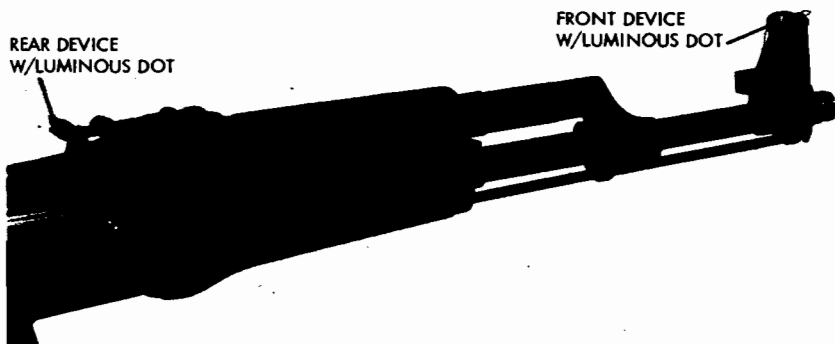

Figure 36. AK-47 assault rifle with night-sighting device.
f. The night-sighting device is attached by snapping it on over the sights (fig. 36). It can be swung out of the way in order to use conventional sights in the daytime. To use, superimpose the luminous dots on each other and on the target, aim, and fire.